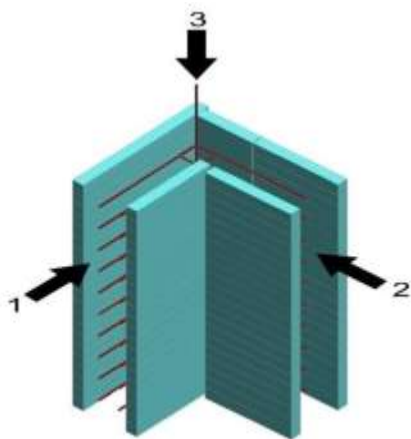

Fig. 30
i. Corner –connection (see Figs. 30 to 32)